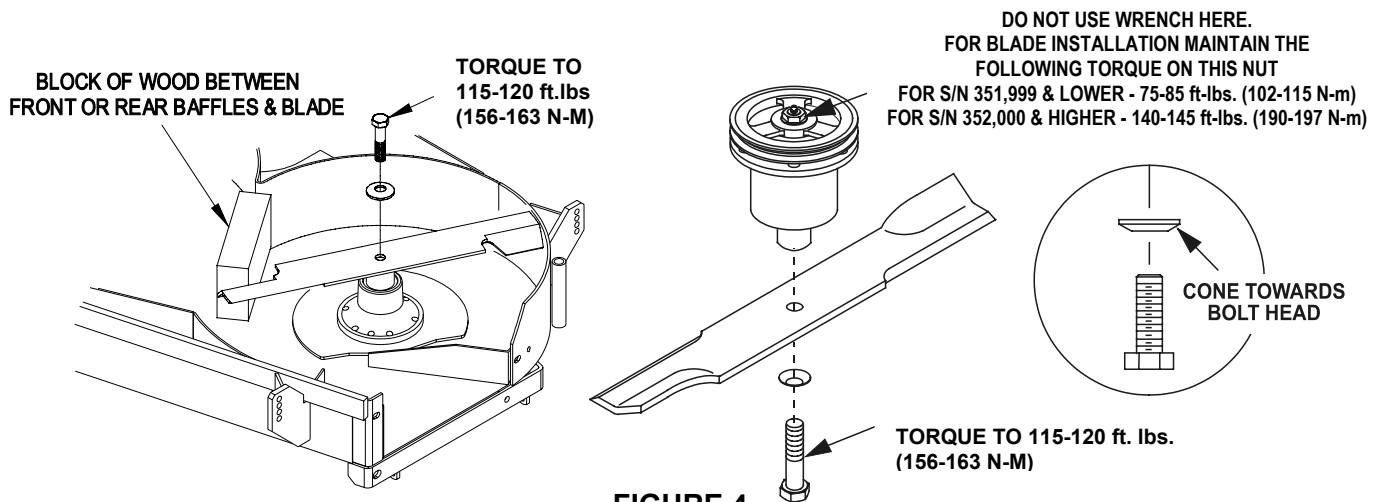

FIGURE 4
- d) Re-install the blades (if they were removed) by placing a block of wood between the front or rear baffles and the blade then torque the blade bolts to 115-120 ft. lbs (156-165 N-M). Be sure the spring disc washer cone is installed toward the bolt head. (See Figure 4).